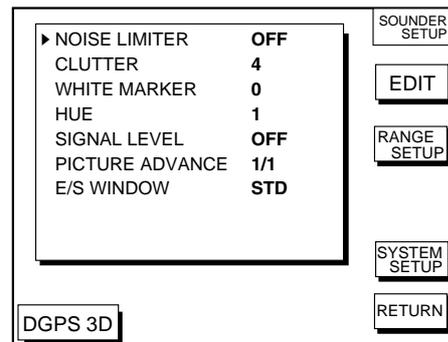

Figure 1-9 Sounder setup menu
1. Press the [MENU] key and the soft key SOUNDER SETUP OPTIONS. The sounder setup menu appears. See Figure 1-9.